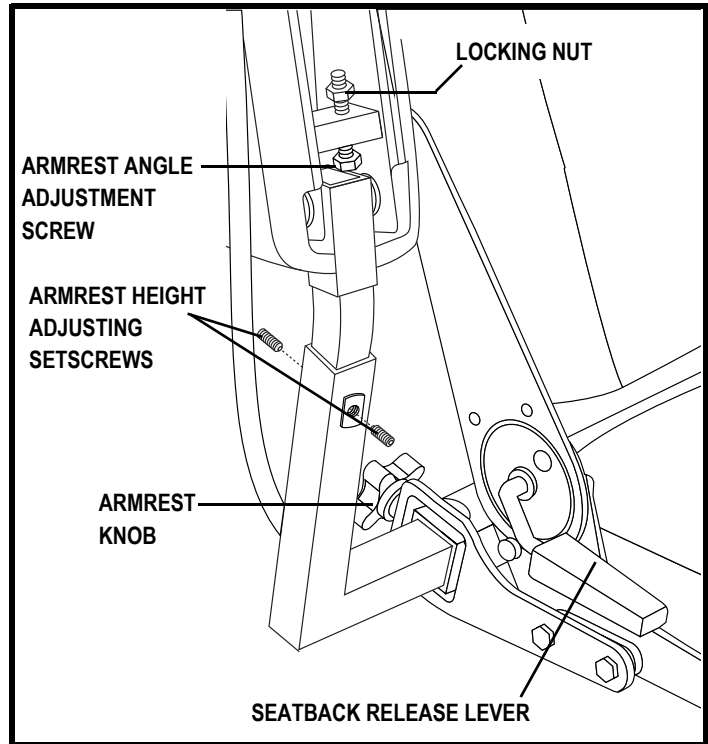

Figure 21. Armrest and Seatback Adjustments
If your power chair is equipped with a manual recline seatback, you can adjust the seatback angle with the seatback release lever. The lever is located on the right side of the seat base. See figure 21.
1. Remove the adjustment screws from each seat hinge. See figure 21.
1. Locate the two armrest knobs on each side of the armrest receiver bracket. See figure 21.
1. Lift the armrest straight up so that it is perpendicular to the floor. See figure 21.
1. Loosen the setscrews on the armrest. See figure 21.